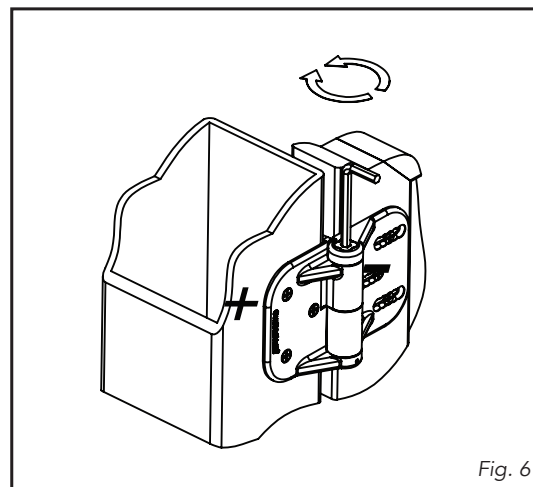

Fig. 6
3. Rotate the cam clockwise to increase spring tension and counter-clockwise to reduce spring tension. Adjust one hing at a time in quarter-turn increments (Fig 6).